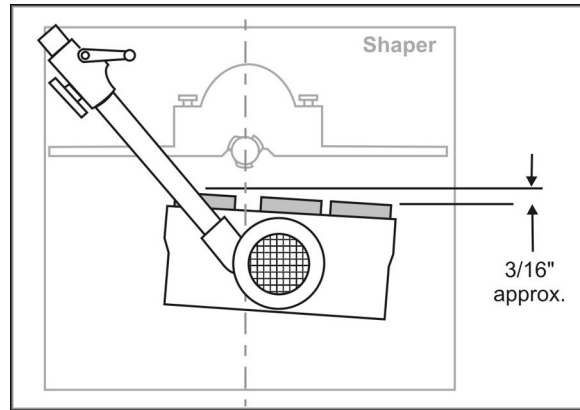

Figure 18
- To ensure that the workpiece is held firmly against the fence, set the stock feeder at a slight angle toward the fence in the direction of feed. In other words, the outfeed roller should be approximately  $3/16"$  (5mm) closer to the fence than the infeed roller. See Figure 18.